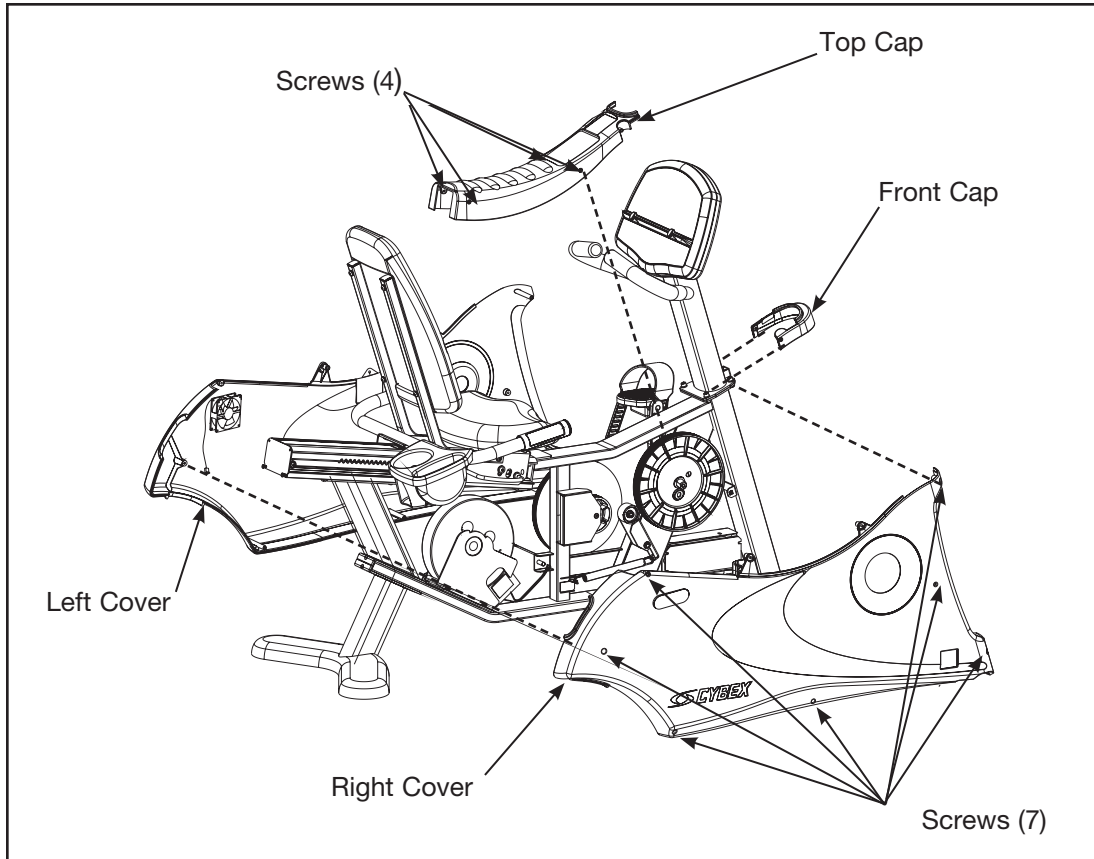

Figure 10
- C.** Remove the four screws securing the top cap in place. Remove top cap. See Figure 10.
- D.** Remove the seven screws securing the right cover in place. Remove right cover. See Figure 10.
- E.** Remove the two screws securing the left cover in place. Remove left cover. See Figure 10.